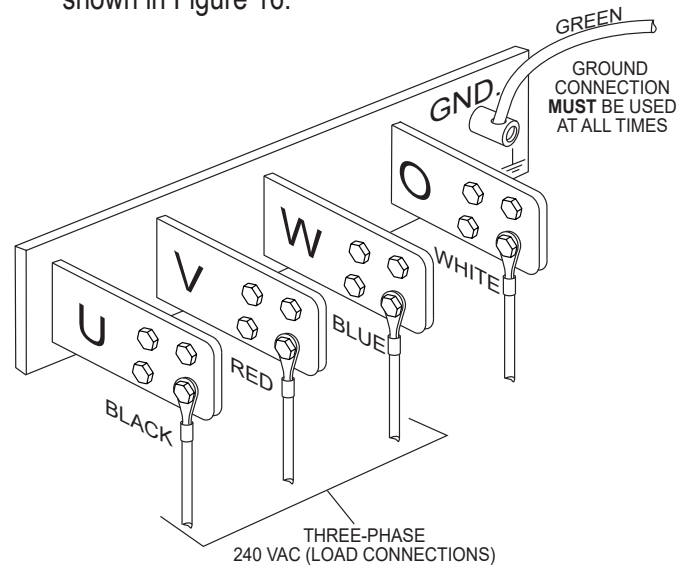

Figure 16. UVWO Terminal Lugs
2. Connect the load wires to the UVWO terminals as shown in Figure 16.